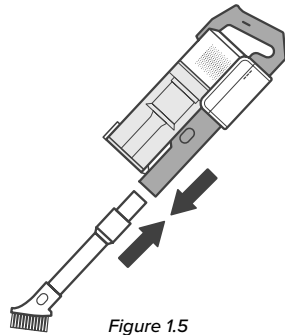

Figure 1.5
1. Press and hold the Vacuum Body Release Button and gently pull the vacuum body from the stick. **[Figure 1.5]**